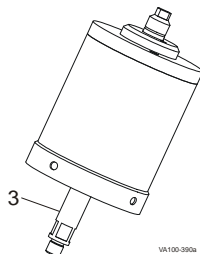

Figure 29 : Pull Lower Stem
5. Pull the lower stem (Figure 29, item 3) to remove the caged spring assembly from the actuator cylinder.